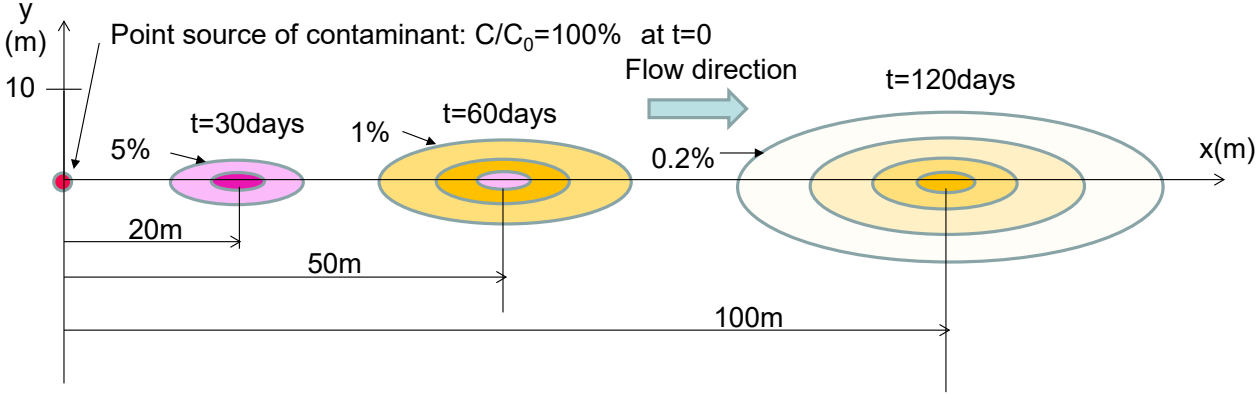

Fig.2
3. Fig.2 shows a result of tracer test as a form of concentration contours of tracer plume obtained at different times (30days, 60days, 120days). Non-reactive and conservative tracer was used. Two dimensional, advective-dispersive and non-reactive transport under a steady state ground water flow in a homogeneous and isotropic confined aquifer with constant thickness can be assumed in this test site.